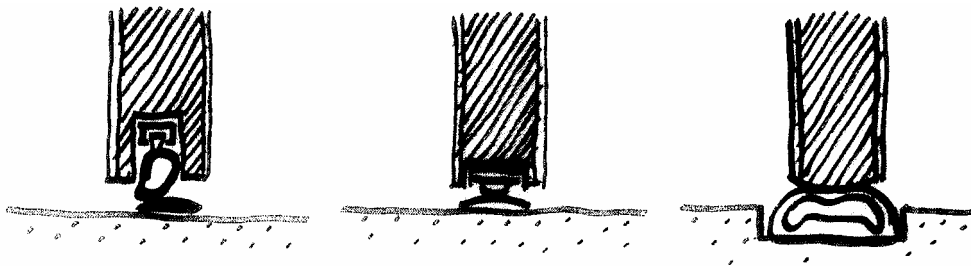

Figure 7.8 – Draught-proofing at door swinging out
- ❖ See “**Front entrance doors**”. *Fig7.8*